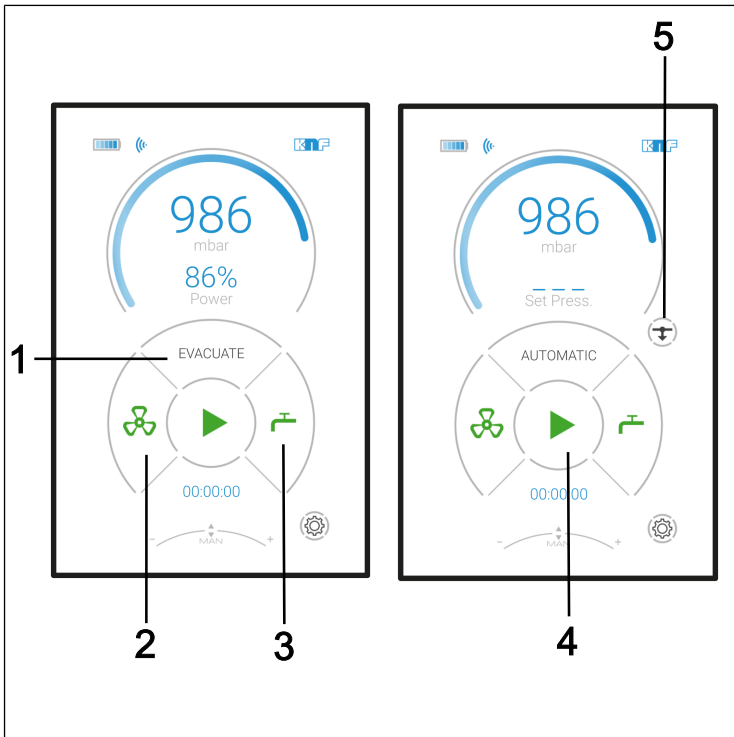

Fig. 15: Menus and buttons on the touchscreen
- Menus for selecting the mode (Fig. 15/1).
- Operating buttons (Fig. 15) with the functions:
- Starting and stopping a process (4);
- Opening and closing the venting valve (2);
- Opening and closing the coolant valve (accessory) of the condenser (3).
Press the *START*  (Fig. 15/4) button to start a process.
Press the *STOP*  (Fig. 15/4) button to stop a process.
Press the *OPEN*  button to open the venting valve (Fig. 15/2).
If the vent valve is permanently open (*CLOSE*  button appears in the display), it can be closed again by pressing the *CLOSE*  (Fig. 15/2) button.
Press the *OPEN*  button for (Fig. 15/3) to open the coolant valve on the condenser.
Press the *CLOSE*  button for (Fig. 15/3) to close the coolant valve on the condenser.